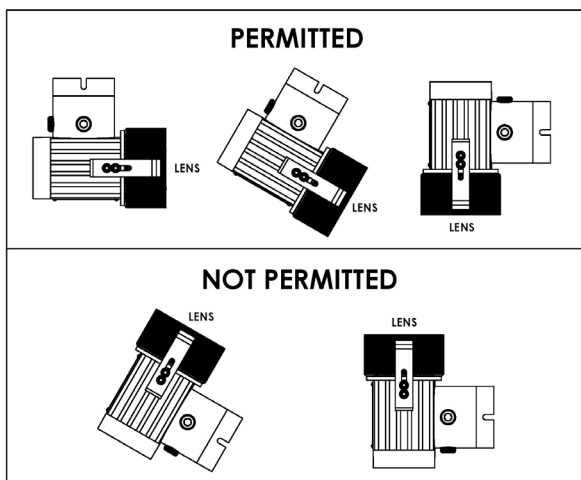

Figure 1 – Operating Position
2.4 **CAUTION:** Mount this luminaire at any angle between the glass lens facing down and the glass lens facing horizontally. Do not mount this luminaire with the lens facing at any angle above the horizontal. See figure 1.